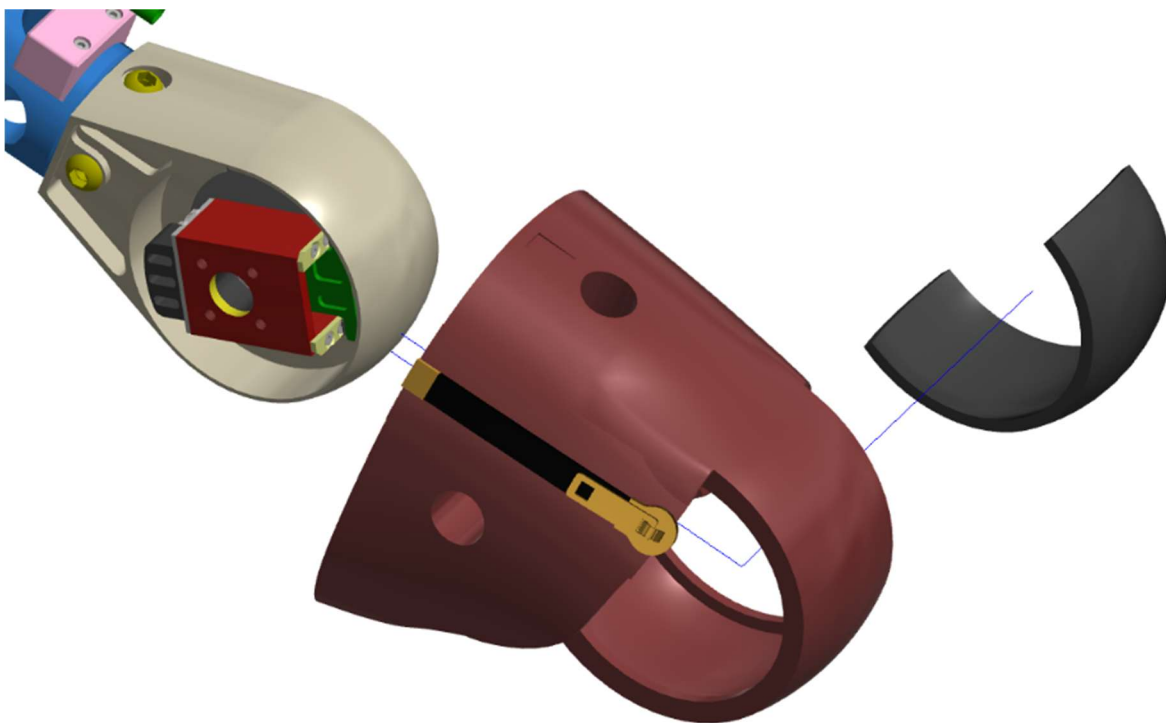

Figure 9-17. Remove the Knee Insert (474-5340)
9.2.10 Remove the Knee Insert (474-5340) from the Knee Flesh (Figure 9-17).